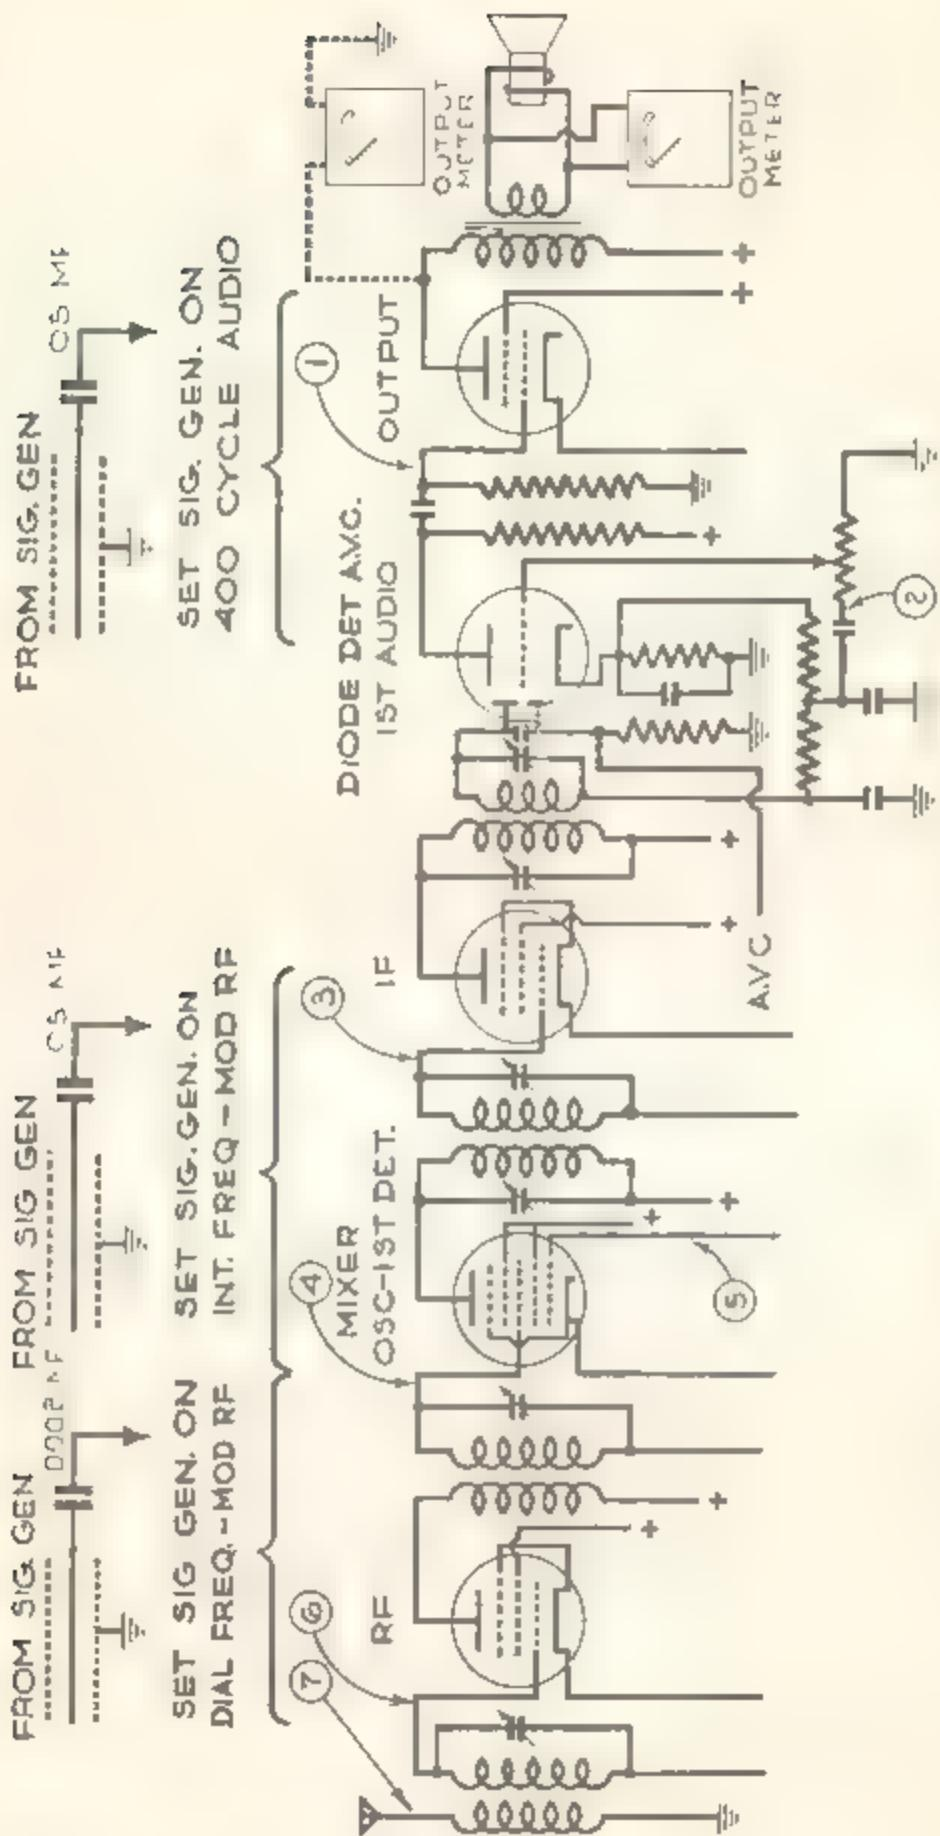

Figure 5 Simplified Circuit of a Superheterodyne Radio Receiver Showing Location of Test Points
An alternate method is to use the Model 340 with an output meter such as the Simpson Model 260 or a vacuum tube voltmeter such as the Model 266. In this case, the output meter is connected to the output of the radio receiver and the signal generator connected to the input of the output stage first. It is then moved along stage by stage toward the antenna section and a fault in any stage will be indicated by the failure of the signal to come through. This method will be described in the following paragraphs as applied to a superheterodyne receiver consisting of one RF stage, mixer, one IF stage, diode detector and first audio, and output stage, the simplified schematic of which is shown in Figure 5. Before starting, test all tubes and make the usual voltage measurements.
2. Connect the output meter to the output of the radio receiver as shown in Figure 5. It can be connected across the voice coil as shown by the solid lines and set on the 2.5 volt AC range or connected between the output plate and ground as shown by the dotted lines and set on a higher range.
3. Connect the output lead from the signal generator to the grid of the output stage through a condenser of approximately .05 MF capacity at point (1) in Figure 5.
Change the output lead from the signal generator from point (1) in Figure 5 to point (2), the input to the volume control. Make connection through a .05 MF condenser and turn the volume control all the way up. If this stage is functioning, a signal will be heard in the speaker and a reading obtained on the output meter. For the same output reading as obtained in step (a), a lower output setting of the signal generator will be required. This is due to the gain of the triode section of the 2nd detector which in a tube such as the 6SQ7 may be from 20 to 50 times. This is additional proof that the stage is operating properly.
Move the output connection of the Model 340 to the input grid of the first detector, point (4) in Figure 5. Leave the signal generator tuned to the intermediate frequency and connect it through the .05 MF condenser. A signal from this point shows that the first detector is functioning but does not eliminate the oscillator as the cause of trouble. The receiver dial should be tuned to the low frequency end of the band.
If no signal is obtained, the oscillator may be checked further by setting the receiver dial to a local broadcast station and connecting the signal generator to the oscillator plate, point (5) in Figure 5, tuning it to a frequency higher than that of the broadcast station by the amount of the intermediate frequency. For example, if the broadcast station is at 1000 KC,
To check the RF stage, connect the output of the Model 340, tuned to the frequency of the radio dial and set on "MOD. R.F.", to the input grid of the RF tube, point (6) in Figure 5, through a .0002 MF condenser. If this stage is operating, a signal will be heard and a reading observed on the output meter. The gain of the stage will be indicated by lower settings of the Model 340 output controls needed to produce the same reading on the output meter as obtained from point (4).
The last step is to check the antenna coil. Move the Model 340 output connection from point (6) to point (7) in Figure 5, leaving all settings the same. Make connection through a .0002 MF condenser or a dummy antenna as shown in figure 2 c. Little, if any, gain will be observed at this point. Automobile receivers, however, will show more gain.
2. Connect the output lead of the signal generator to the grid of the last IF amplifier tube through a .05 MF condenser as shown at point (3) in Figure 5.